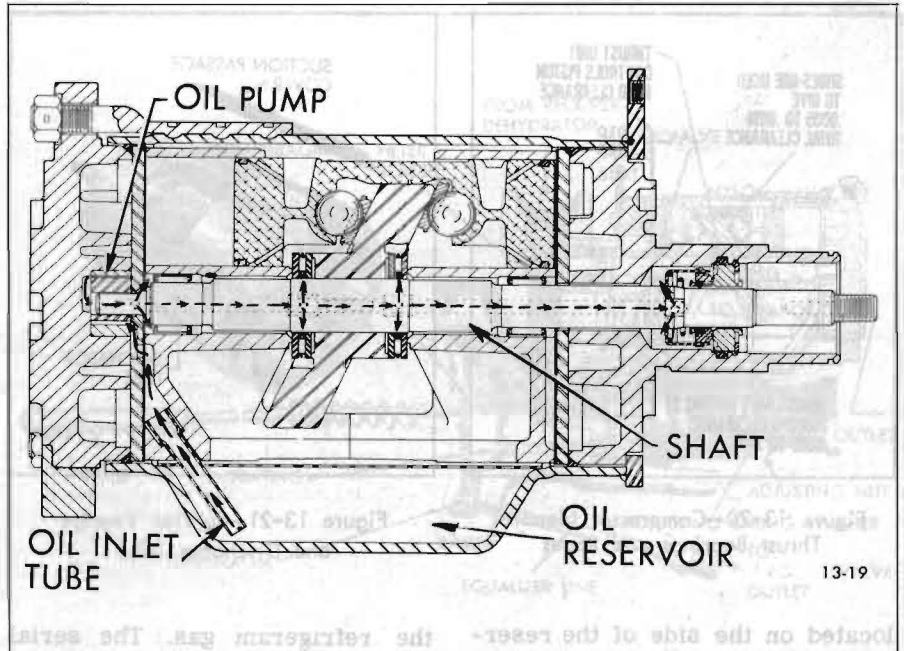

Figure 13-19—Compressor Oil Flow
3. Oil Pump--An internal tooth outer rotor and external tooth inner rotor comprise the oil pump. The pump works on the principle of a rotary type pump. Oil is drawn up from oil reservoir in underside of shell through the oil inlet tube (see Figure 13-19) and circulated through the system via a 3/16 inch diameter oil passage through the shaft center and also four 5/64 inch diameter holes drilled perpendicular to the shaft. The inner rotor is driven by the shaft.